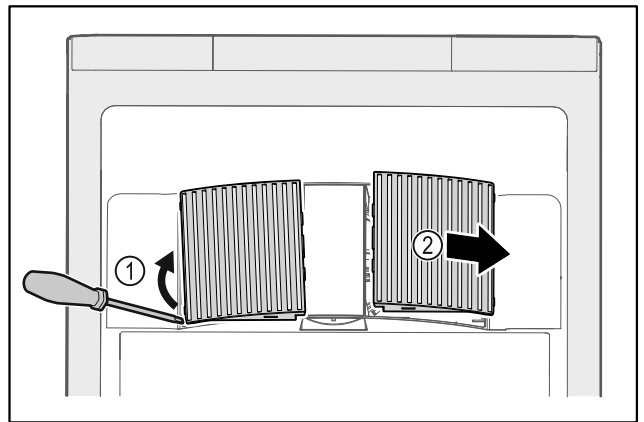

Fig. 196
- ▶ Carefully lever out fan covers from the side Fig. 196 (1) and remove towards the front Fig. 196 (2).